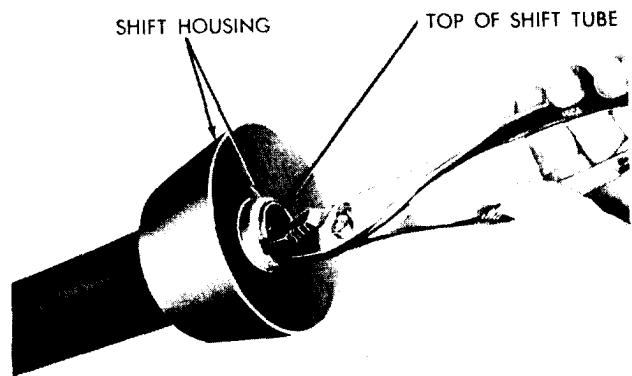

Figure 21-16. Bending Shift Tube Tabs.
(c) Straighten the tabs at the top of the shift tube so they will clear the shift housing (figure 21-16) and remove the shift housing and spring washer from the column jacket.
f. Bend the corners of the slot in the shift tube out against the shift housing casting (figure 21-16).